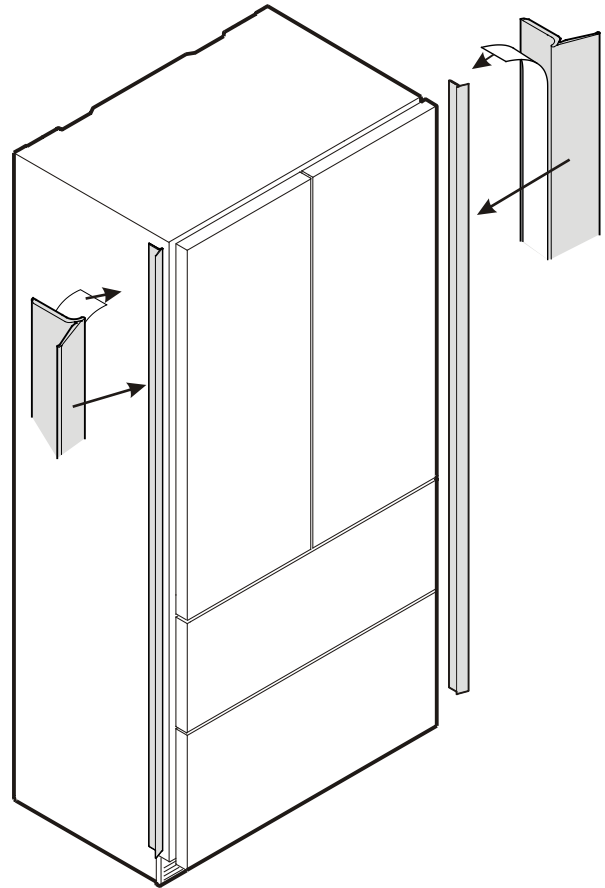

Figure 12
## Cover strips - Figure 12
- Remove the cover band from the strips and stick them to the left and right front edge of the appliance housing (Figure 12).